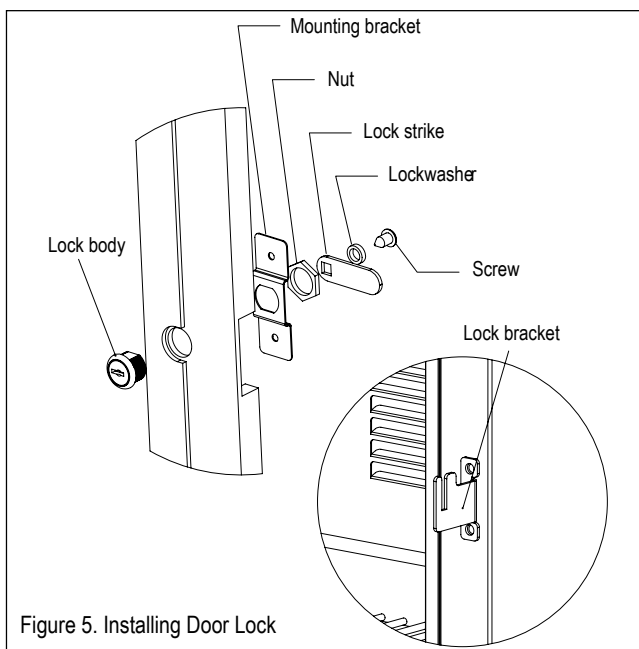

Figure 5. Installing Door Lock
1. See Figure 5 below. Attach mounting bracket to wood overlay.